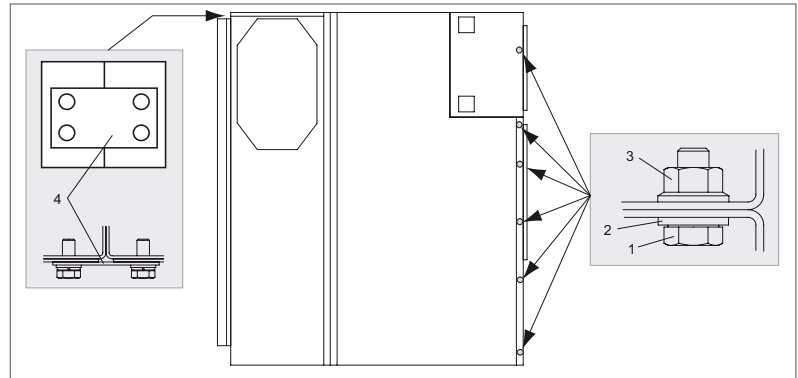

Fig. 5.9
- 1. Screw-fastening panel fronts to one another using 6 fastening points (Fig. 5.9).